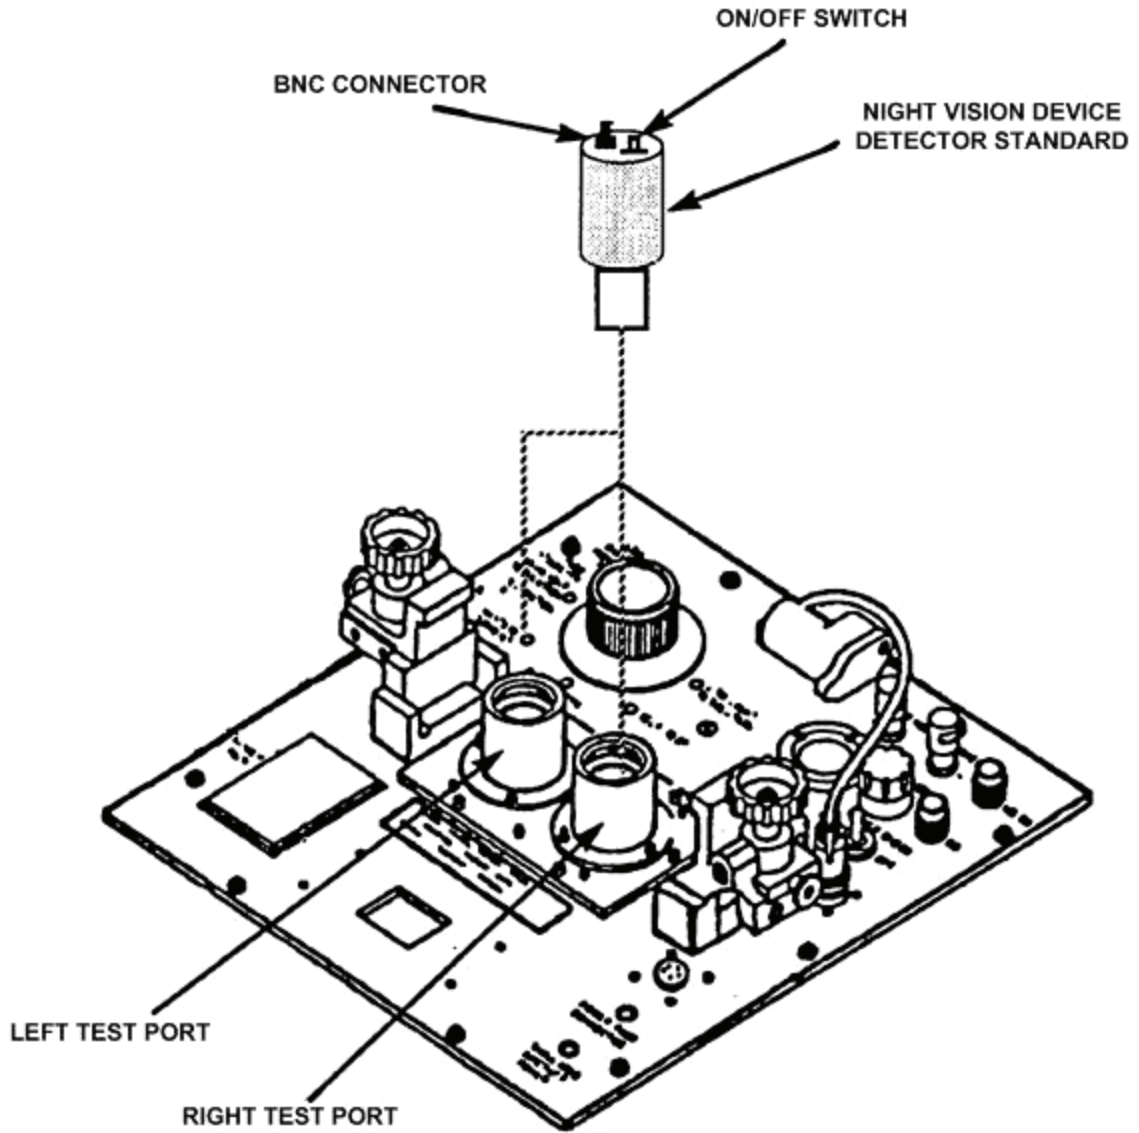
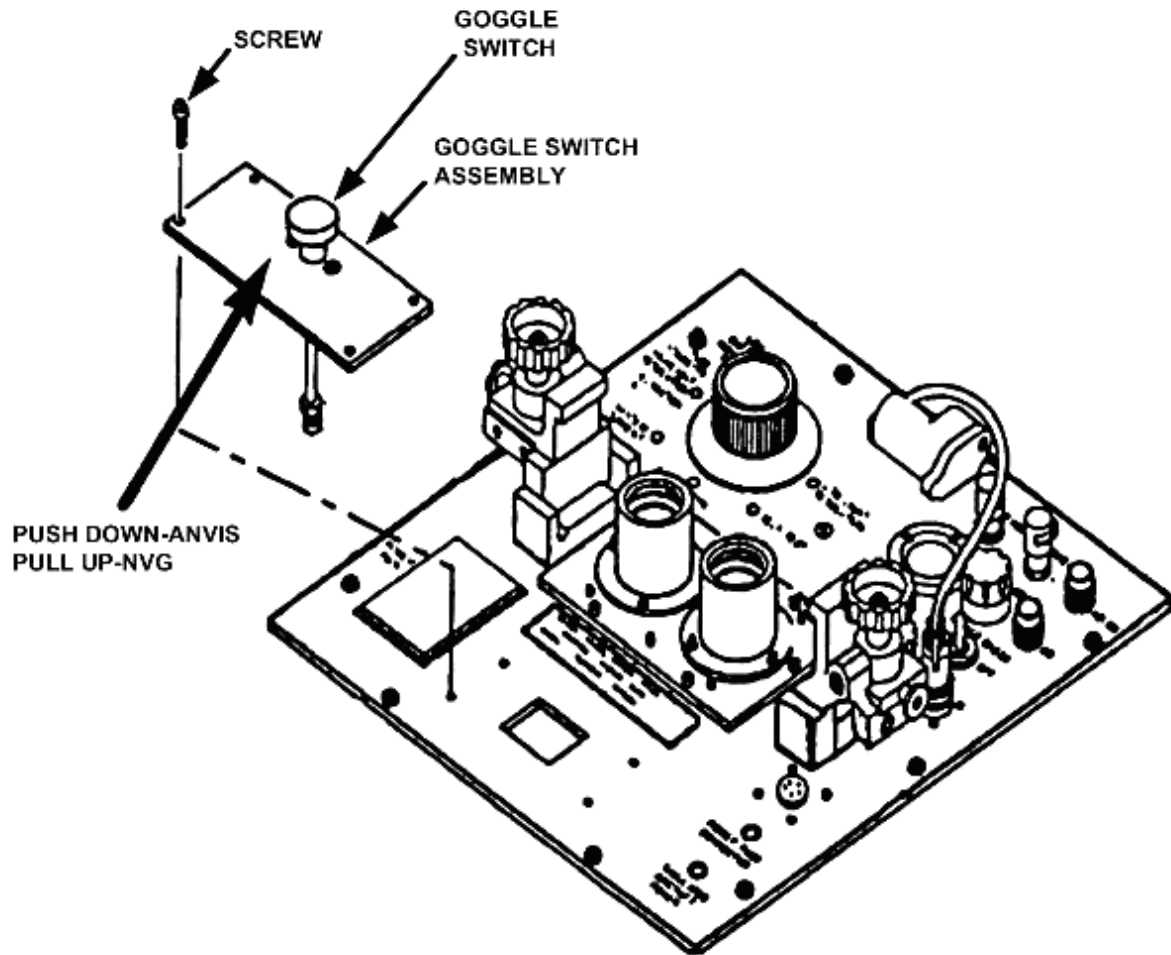

Figure 1. TS-3895A/UV control panel.
Figure 2. TS-3895A/UV control panel.
(1) Connect multimeter **Input HI and LO** to night vision device detector standard BNC CONNECTOR (fig. 1).
(2) Install night vision device detector standard into TI RIGHT TEST PORT (fig. 1). Install lens cap/target over TI LEFT TEST PORT (fig. 1).
(3) Turn night vision device detector standard power ON/OFF SWITCH (fig. 1) to **ON** and allow night vision detector standard to warm-up 5 minutes.
(4) Set TI **ON-OFF-POWER CHECK** switch to **ON** and rotate selector switch to **LOW LIGHT LEVEL RESOLUTION**.
(5) Pull TI ANVIS/NVG GOGGLE SWITCH (fig. 2) to **NVG** (up) position. If multimeter does not indicate between 3.04 and 5.90 mV dc, perform **b** (1), (2), and (4) below.
(6) Push TI ANVIS/NVG GOGGLE SWITCH (fig. 2) to **ANVIS** (down) position. If multimeter does not indicate between 0.82 and 1.60 mV dc, perform **b** (1), (3), and (4) below.
(7) Remove lens cap/target from TI Left Test Port (fig. 1) and remove night vision device detector standard from RIGHT TEST PORT (fig. 1) and install in TI LEFT TEST PORT (fig. 1). Install lens cap/target over TI RIGHT TEST PORT (fig. 1).
(8) Repeat (5) and (6) above.
(9) Rotate TI selector switch to **SELF TEST**. **GO** (green) light will illuminate.
(10) Rotate TI selector switch to **HIGHLIGHT LEVEL RESOLUTION**.
(11) Pull TI ANVIS/NVG GOGGLE SWITCH (fig. 2) to **NVG** (up) position. Multimeter will indicate between 0.570 and 1.710 V dc.
(12) Push TI ANVIS/NVG GOGGLE SWITCH (fig. 2) to **ANVIS** (down) position. Multimeter will indicate between 0.155 and 0.464 V dc.
(13) Remove lens cap/target from TI RIGHT TEST PORT (fig. 1) and remove night vision device detector standard from LEFT TEST PORT (fig. 1) and install in TI RIGHT TEST PORT (fig. 1). Install lens cap/target over LEFT TEST PORT (fig. 1).
(14) Repeat (11) and (12) above.
- (1) Remove GOGGLE SWITCH ASSEMBLY (fig. 2) using tamper-proof bit.
Temporarily install GOGGLE SWITCH ASSEMBLY (fig. 2) after making adjustment.
- (3) Press S1 micro switch (fig. 3) and adjust R44 (fig. 3) for a 1.21 mV dc multimeter indication (R). Temporarily install goggle switch assembly (fig. 2) with ANVIS/NVG goggle switch (fig. 2) in the down position.
- (4) Install goggle switch assembly (fig. 2) using tamper proof bit.